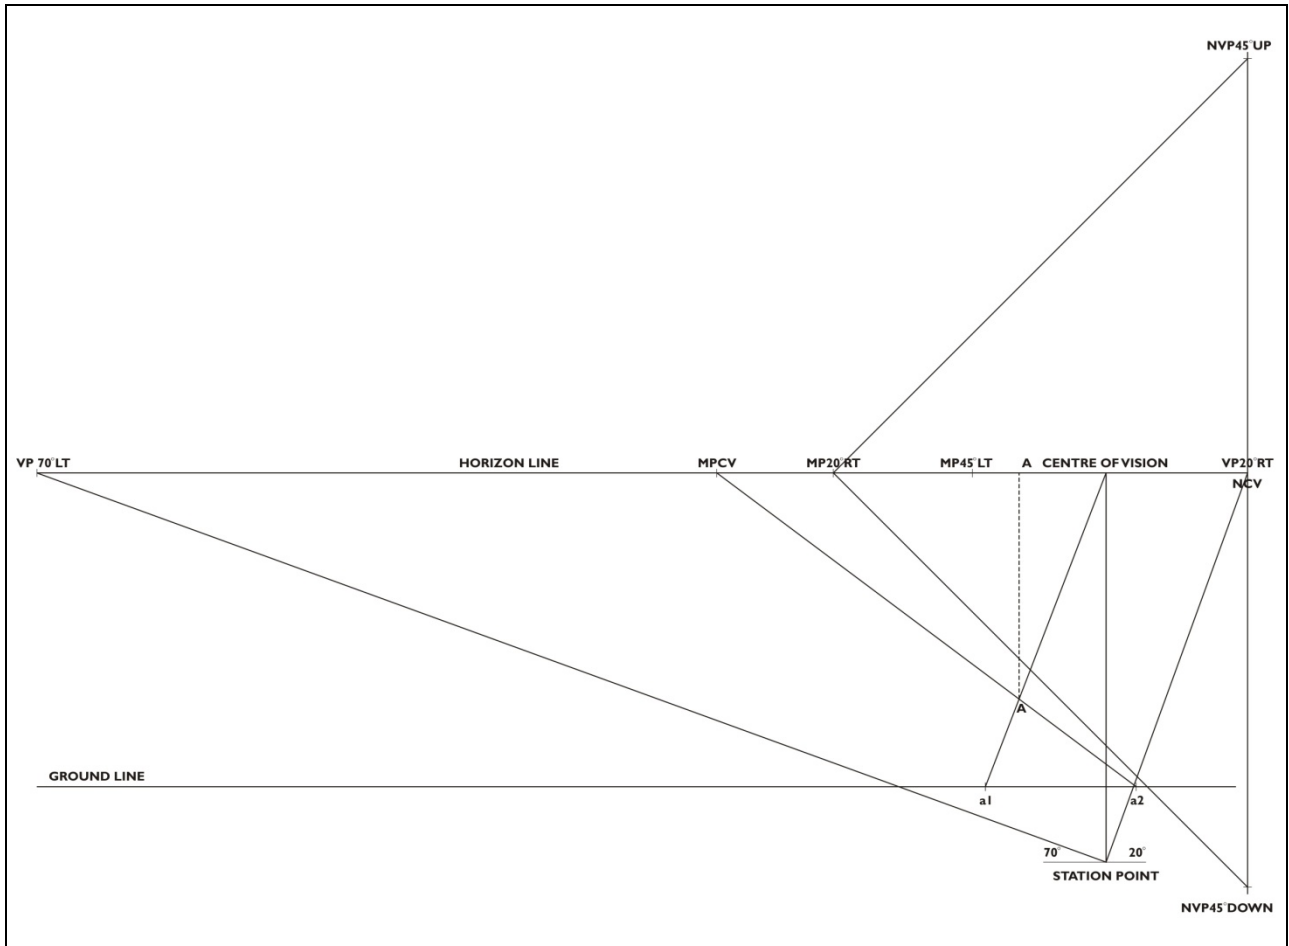

Figure 5.5 Construction of Three-Point Perspective Grid
1. After completing this, project a line from A vertically up to the Horizon Line for the leading corner of the grid, or new point A. Refer to Figure 5.5.